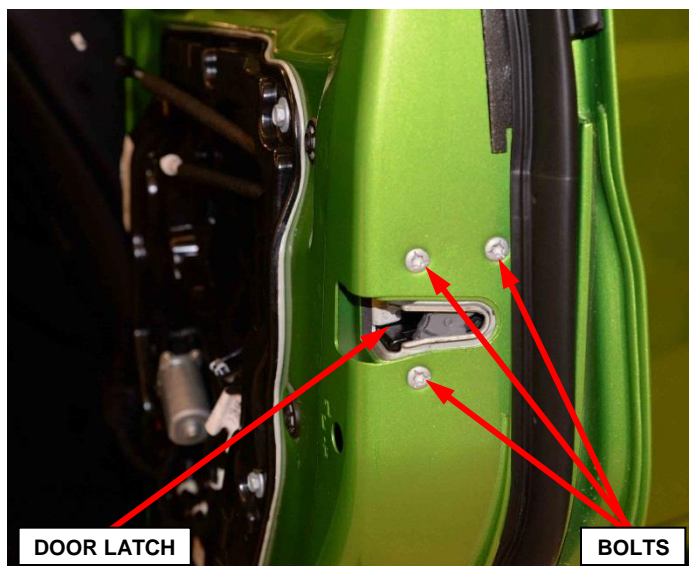

Figure 15 – Door Latch Mounting Bolts
27. Remove the three door latch mounting bolts (Figure 15).
60. Install the three door latch mounting bolts and tighten to 7 N·m (62 In. lbs.) (Figure 15).